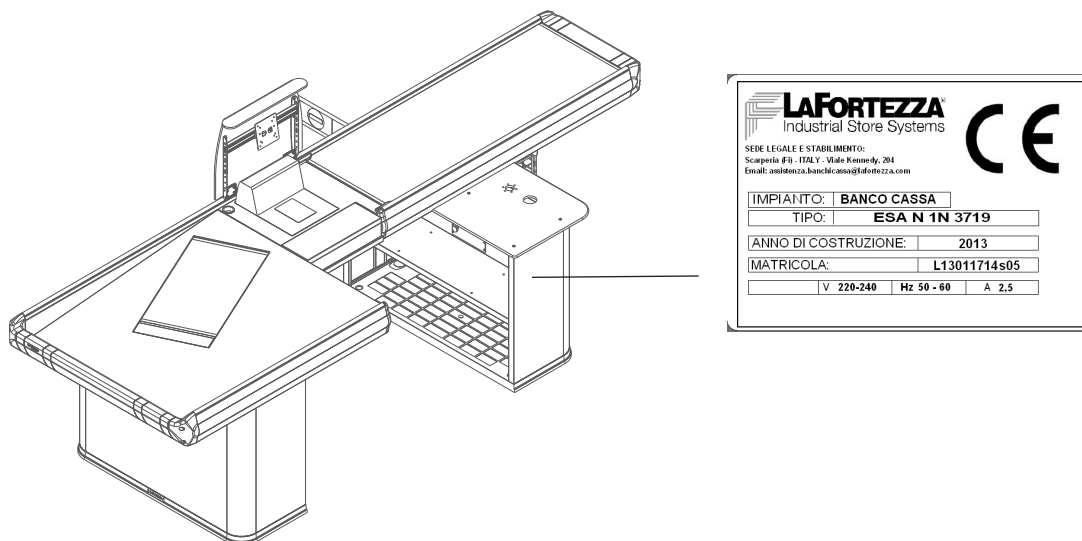

Fig. 2.5 - Manufacturer data
2.3. MANUFACTURER AND CHECKOUT IDENTIFICATION DATA (fig. 2.5).